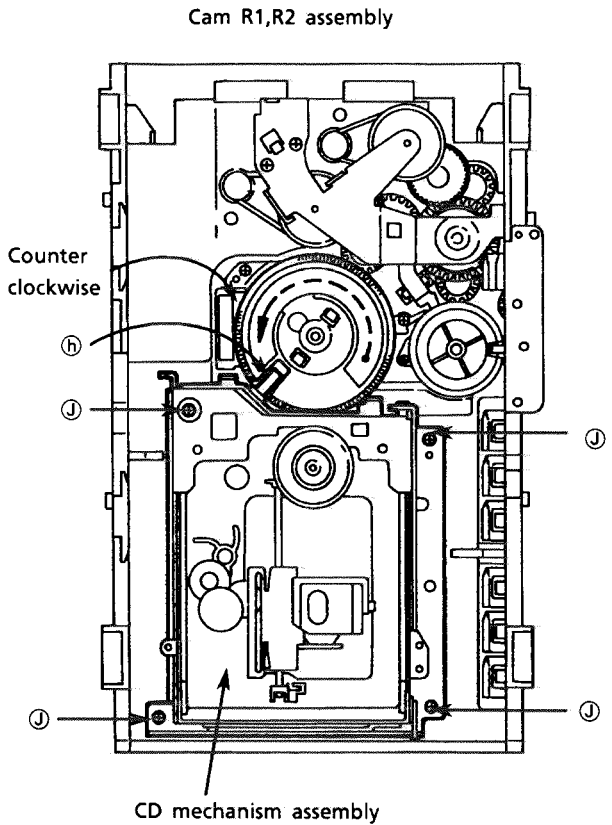

Fig. 28
2. Rotate the Cam R1, R2 ass'y counterclockwise so that CD mech. ass'y's shaft ⑧ is positioned as shown in Fig. 28.
3. Remove 4 screws ⑨ securing CD mech. ass'y. (See Fig. 28.)